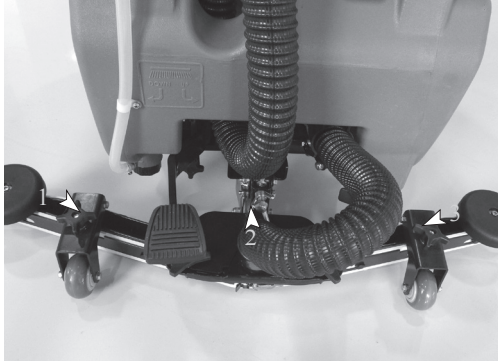

Figure 43
2. Adjust the regulating nut as indicated by arrow 2 in the following diagram if squeegee blade does not contact the ground or there is a small gap between them. Rotate the regulating nut clockwise to lift the squeegee blade; counter-clockwise rotate the regulating nut to lower the squeegee blade. Adjust the squeegee blade to an optimal status according to actual demands (Figure 43).